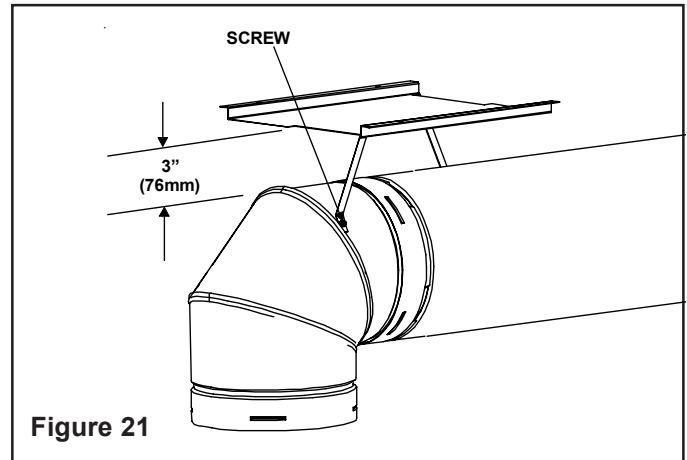

Figure 21
- If the combustible materials are not in place at the time of install the elbow heat shield may be screwed to the exhaust pipe (see Figure 21). Cut the tabs as shown and bend down. Secure the heat shield to the pipe maintaining 3" to 4" between the pipe and shield.